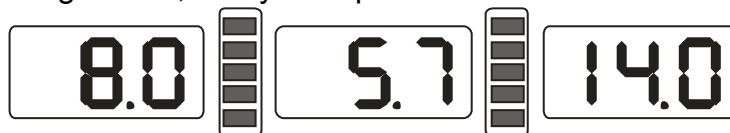

Figure 7-1
After the power-on of the machine, it starts initialization automatically. The initialization will be finished after two seconds. The machine enter natural dynamic (clamp counterweights on the correction plane of the both edged sides of rim) mode automatically, as in Figure 7-1, ready for input date of rim.
- 9.1 After the power-on of the machine, the initialization is finished ect figure 7-1, install a can clip counterweight and comparatively balance middle size tyre, follow step 7 input date of rim;